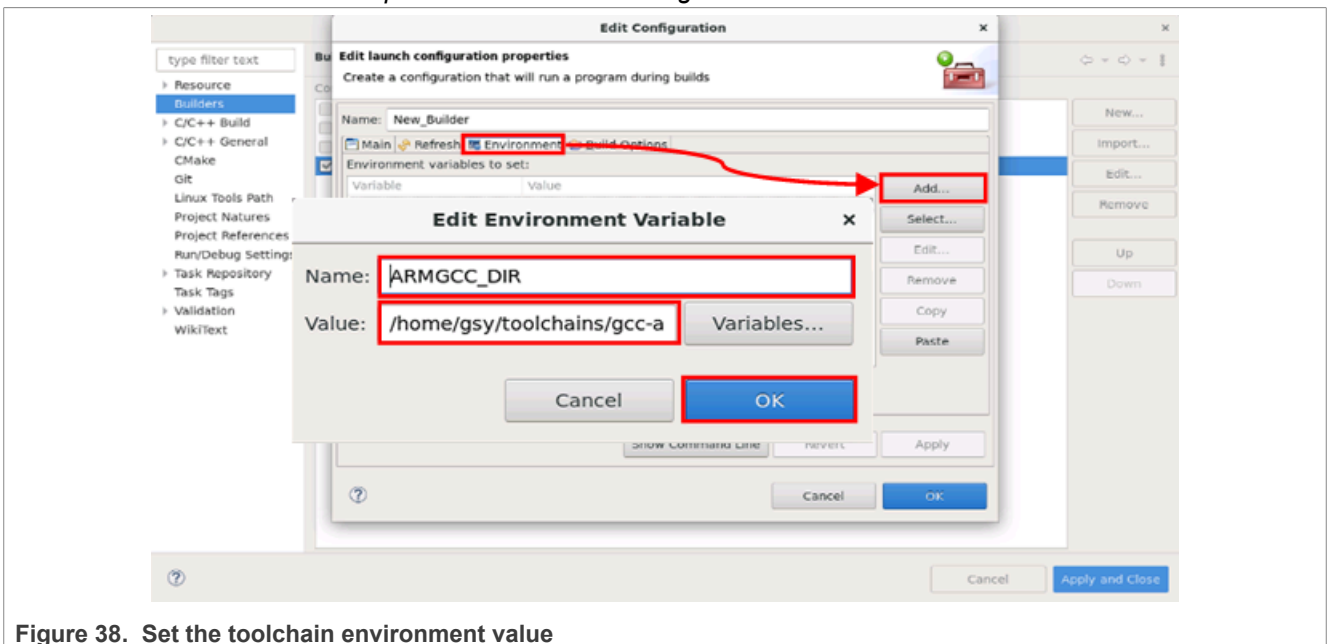

Figure 38. Set the toolchain environment value
- c. Click **Environment** and **Add** to include the GCC toolchain that is to be used as shown in Figure 38.